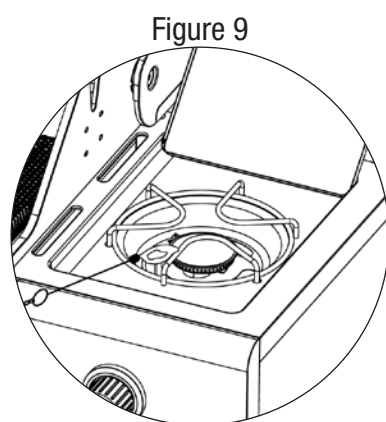

Figure 9
8. If igniter does not light burner, use a lit match secured with the lighting rod provided to light burners manually. Position the lit match near side of the burner. (Figure 9)